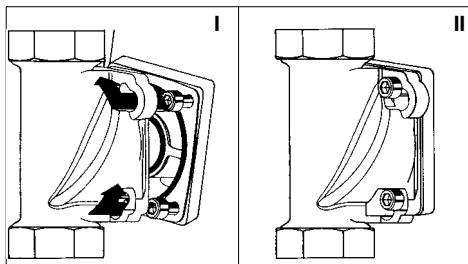

Fig. 4: Built-in rotary flange with Bayonet Fixture
- Insert the four flange screws in the bayonet drill holes on the built-in rotary flange (see fig. 4 I).
- Turn the filter in a clockwise direction as far as it will go (see fig. 4 II).